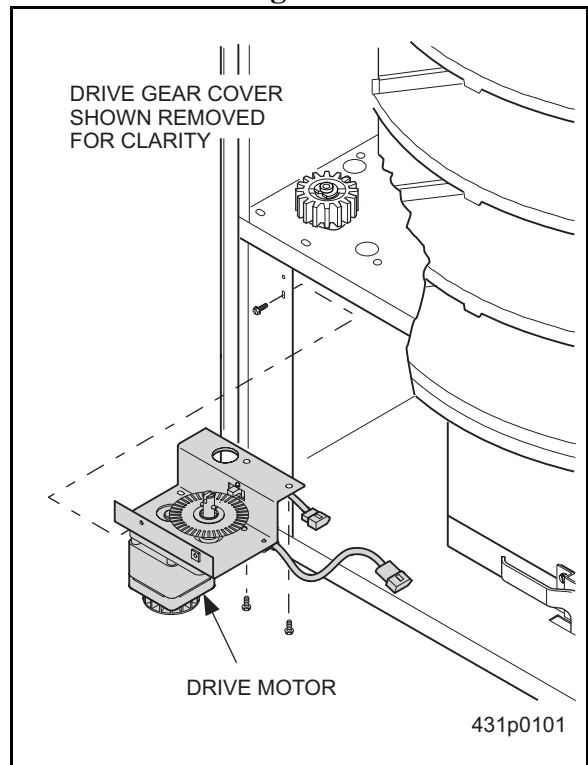

Figure 9
4. While supporting the drive motor assembly with one hand, remove the single front screw securing it to the machine (figure 9).